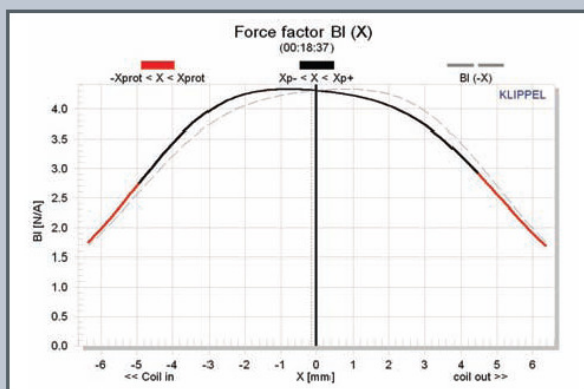
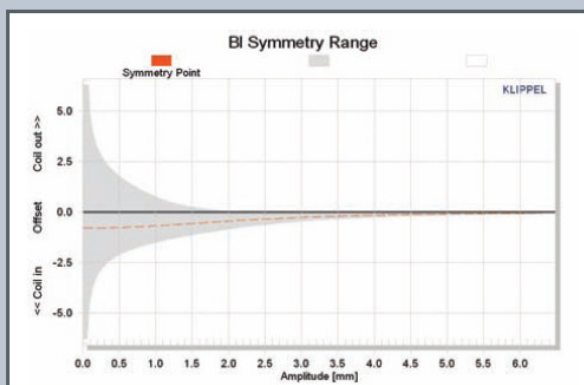

FIGURE 20: Klippel Analyzer BI (X) curve for the 12W/4524G00.
FIGURE 21: Klippel Analyzer BI symmetry range curve.
Klippel analysis for the 12W midwoofer produced the BI(X), Kms(X), and BI and Kms symmetry range plots given in **Figs. 20-23**. The BI(X) curve (**Fig. 20**) is moderately broad and symmetrical, with a coil-in (rearward) offset. In the BI symmetry range curve in **Fig. 21**, there is a 0.8mm coil-in (rearward) offset that goes to 0.3mm at the physical Xmax position (3mm), so not too bad.